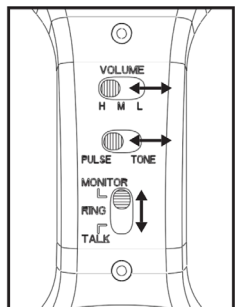

Figure 3
In Monitor mode, the butt set is on-hook with Hi impedance coupling to the telephone line. This allows you to monitor the telephone line without disrupting conversations, data, or signaling. (Figure 3)
In Ring mode, the butt set is on-hook with an electronic ringer connected to the telephone line. This provides Low impedance coupling to telephone line to monitor optional line identification tones. (Figure 3)
To answer a call, stop the line, or initiate signaling, switch to TALK mode. If dialing, select the PULSE or TONE mode, whichever is appropriate. To terminate a call, release the line by switching to Ring or Monitor Mode. (Figure 3)
1. Volume Switch (H/M/L): This three-position slide switch is located on the inside of the handgrip, which allows you to change the volume to High/Middle/Low. (Figure 3)
2. Tone/Pulse Switch (TONE/PULSE): This two-position slide switch, labeled TONE/PULSE, selects the signaling output. Select TONE for DTMF or PULSE for dial pulse. (Figure3)